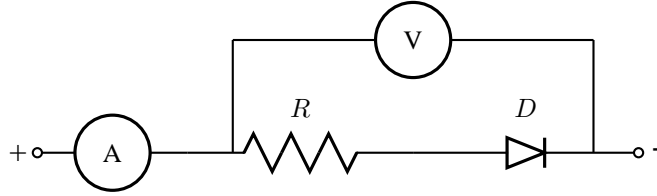
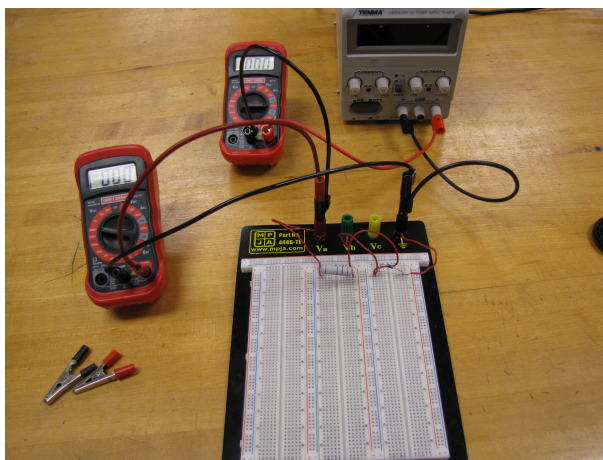

Figure 4: The schematic of the circuit for adjusting the power supply.
Figure 5: The circuit corresponding to the schematic in in Fig. 4 assembled on the breadboard.
3. Adjust the power supply to protect the circuit and components. Place the voltmeter in parallel with the resistor and diode (See the schematic in Figure 4 and and the circuit, itself, in Figure 5.) First, set the power supply to limit its maximum current output when there is, approximately, a 3.0 volt potential difference across the resistor and diode. The current setting on the power supply will be left at this position for the duration of the experiment. The voltage setting on the power supply should now be set to zero.